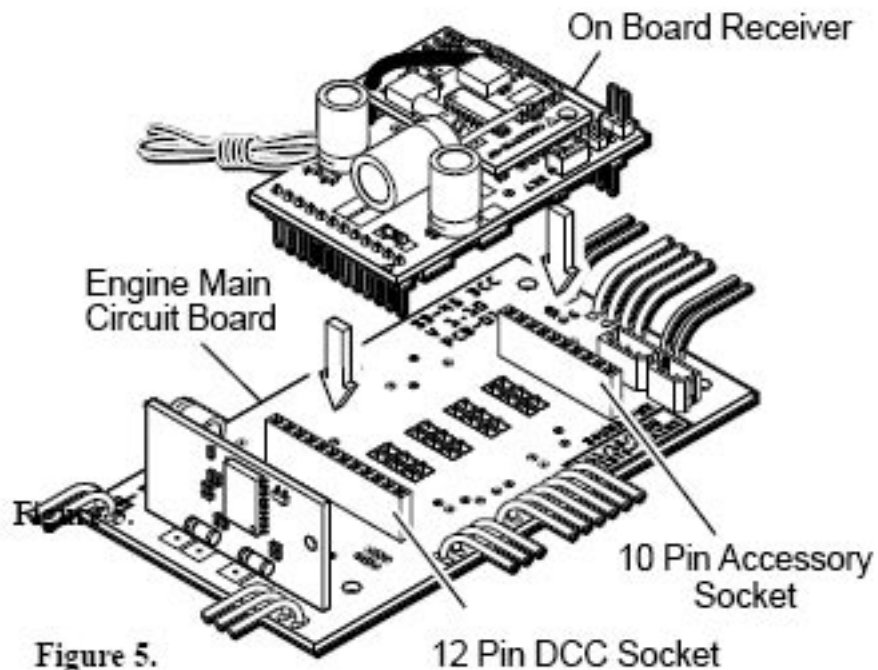

Figure 5.
- 4) **INSTALL THE ON BOARD TRAIN ENGINEER RECEIVER** in the 12 pin DCC socket and the 10 pin accessory socket as shown in figure 5.